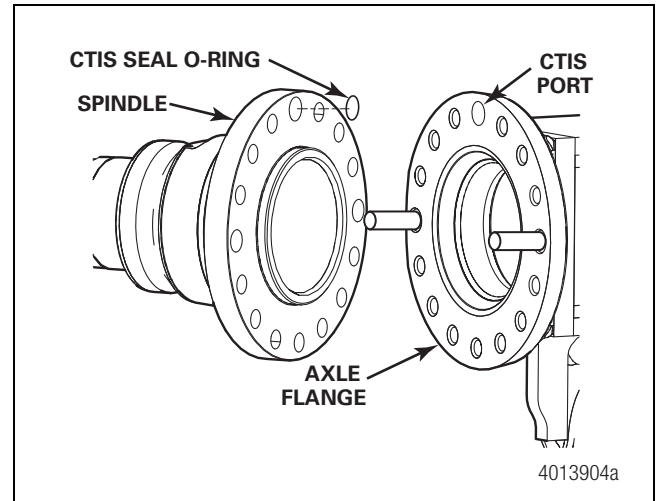

Figure 3.12
15. If equipped with the optional CTIS feature, remove the CTIS port O-ring from the back face of the spindle and discard. Figure 3.12.